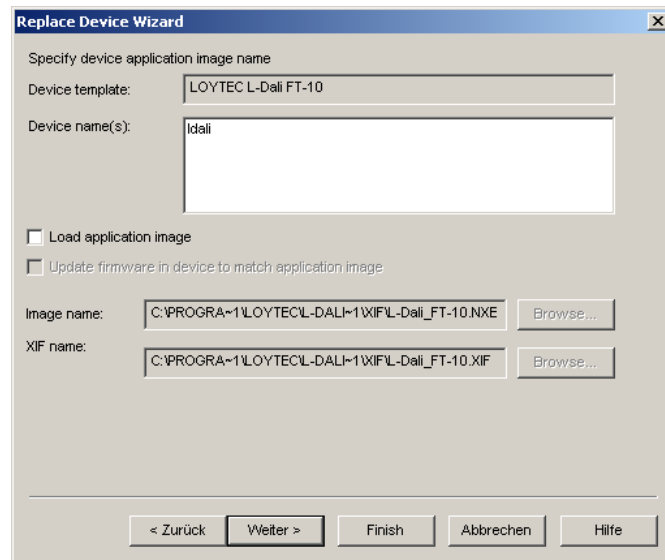

Figure 135: Click Next without loading an application image.
4. In the following window shown in Figure 135 click **Next**.